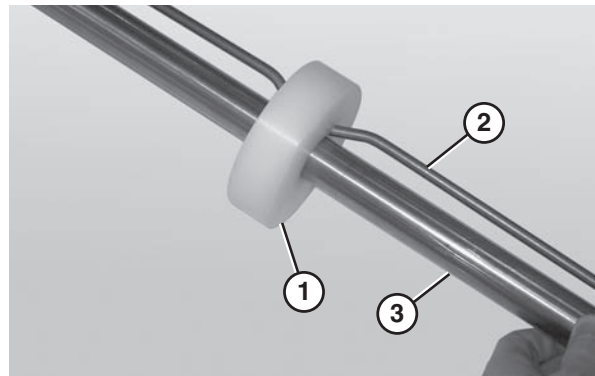

Figure 78
- Place the idler puck (**Figure 78, item 1**) at the center of the bent retaining bar (**Figure 78, item 2**).
- Slide the idler puck onto the idler shaft (**Figure 78, item 3**). Make sure to center the idler puck.